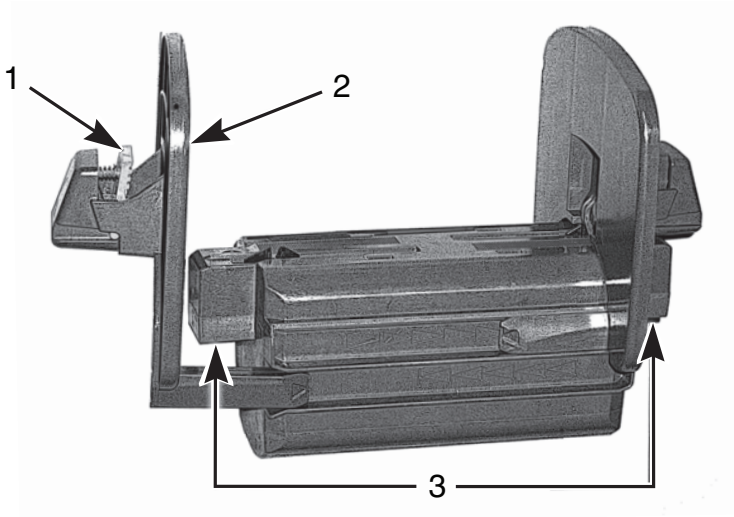

Figure 6, Material Supply Holder
1. Remove the material supply holder (**Figure 6**) from the printer by lifting it up and out of the frame.
There are sensors located under the side tabs (Figure 6, 3) on both sides of the material supply holder. Be careful not to damage these sensors or the label printer will be unable to read the material identification tag on the labels.
2. Press and hold the green tab (**Figure 6, 1**) on the material supply holder and slide the end piece (**Figure 6, 2**) outward.